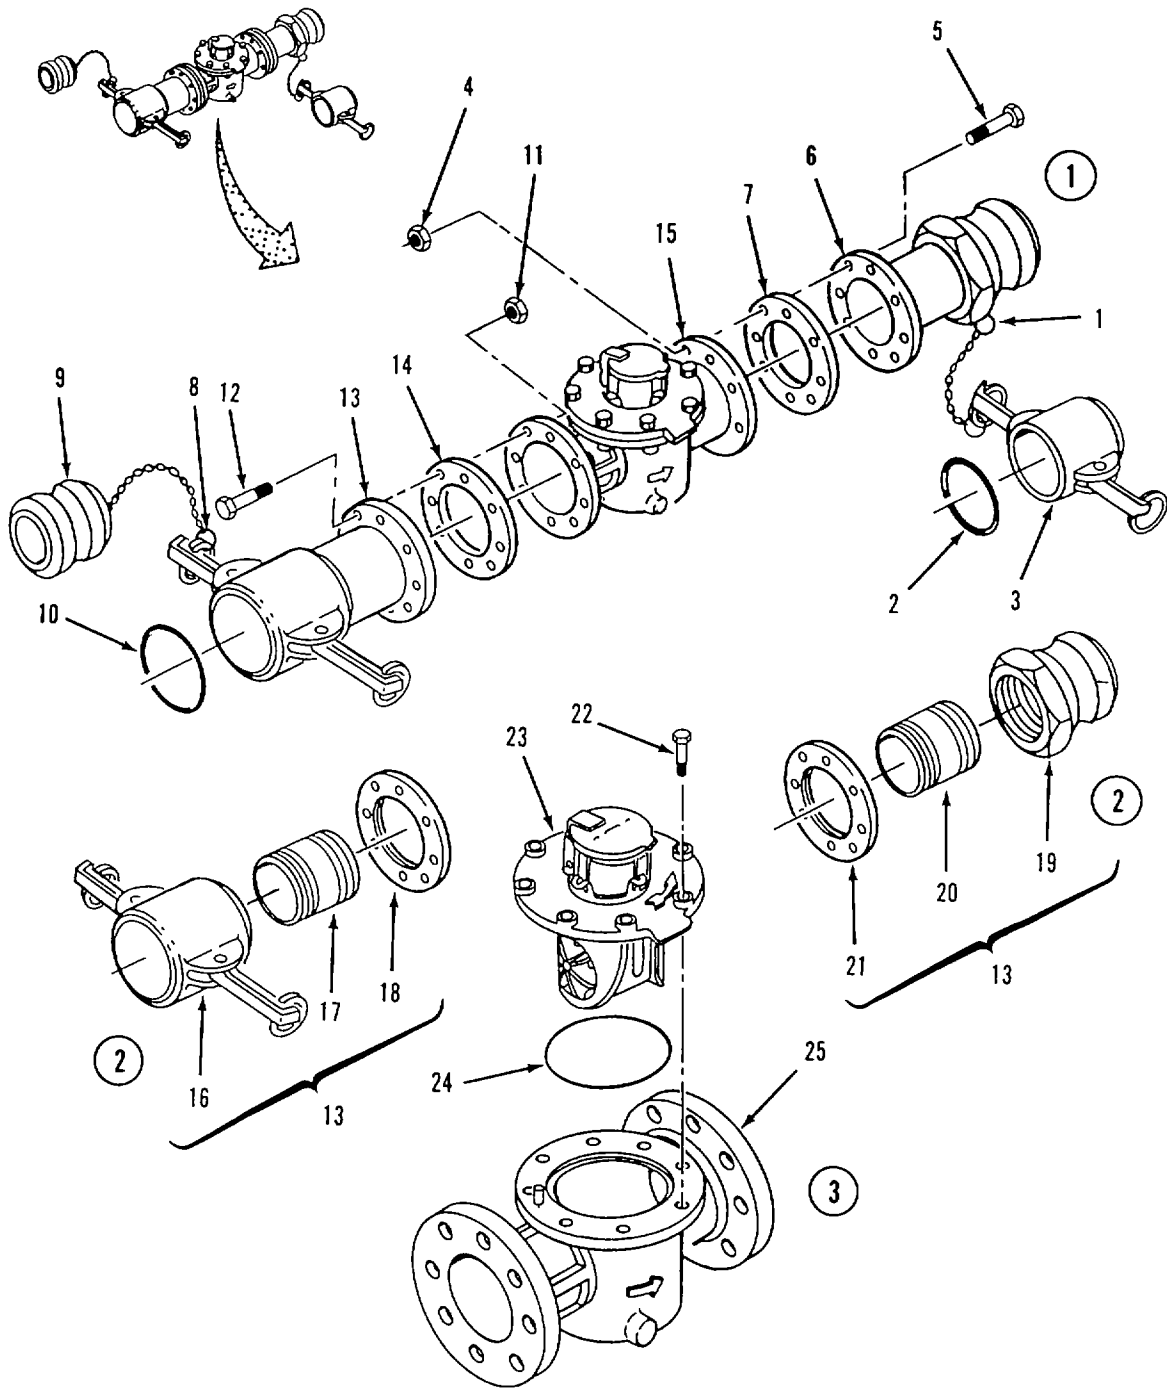

Figure 4-29. Water Meter Repair.
a. Disassembly. Refer to figure 4-29.
- (1) .Disconnect ring (1) from male coupling (9) and remove cap (3).
- (2) Remove gasket (2) from cap (3).
- (3) Remove eight self locking nuts (4) and screws (5).
- (4) Separate male coupling (6) and gasket (7) from meter (15).
- (5) Disconnect ring (8) from female coupling (13) and remove plug (9).
- (6) Remove gasket (10) from female coupling (13).
- (7) Remove eight self locking nuts (11) and screws (12).
- (8) Separate female coupling (13) and gasket (14) from meter (15).
- (9) If required, remove female coupling end (16) and nipple (17) from adapter (18).
- (10) If required, remove male coupling end (19) and nipple (20) from adapter (21).
- (1) Inspect female coupling end (16), male coupling end (19) and adapters (18 and 21) for cracks, stripped threads, and corrosion.
- (2) Inspect body (25) for cracks and corrosion.
- (3) Inspect metering element (23) for cracks, damage, and corrosion.
e. Repair. Replace damaged or defective parts Replace all sealing components.f. Assembly. Refer to figure 4-29.**NOTE**